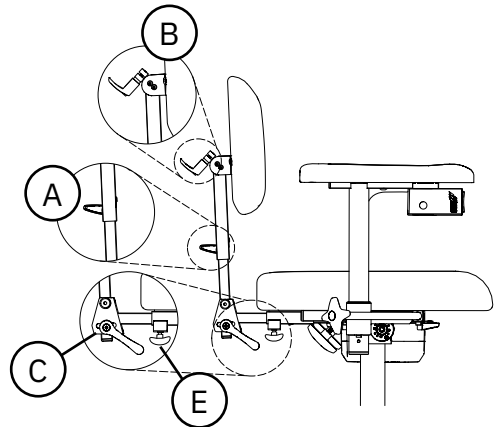

Figure 5.27. Medic backrest mechanism.
Medic can be adjusted in height (A), angle of backrest (B), angle of back recliner (C) and depth (E), see Figure 5.27. The back recliner can be adjusted in the range of 15° forward to 45° backwards.